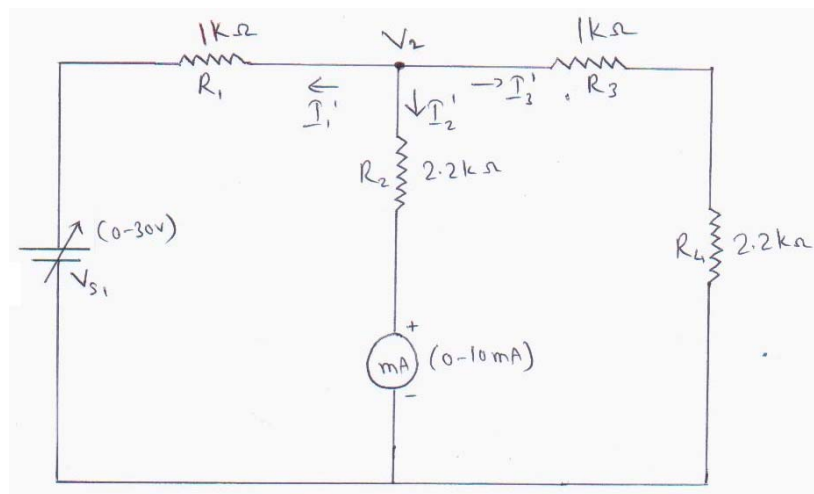

Figure 4.2
3. Now  $V_{S2}$  is short circuited. Vary  $V_{S1}$  & take the corresponding reading  $I_2^1$  from the ammeter as shown in figure 4.2